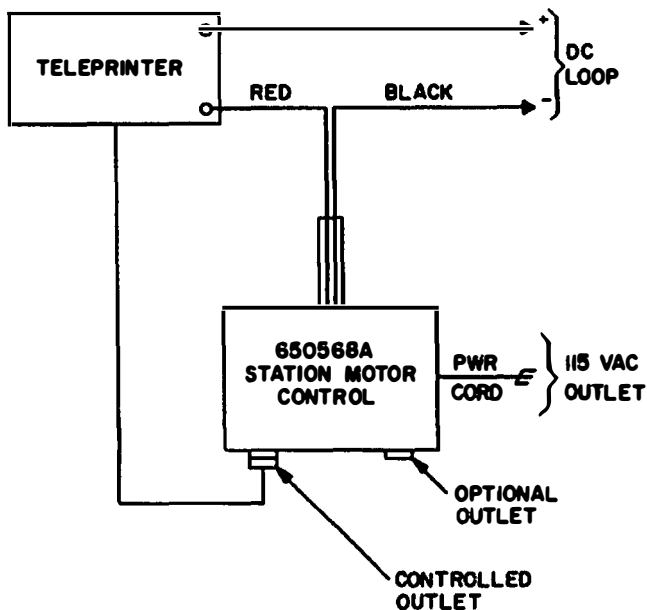

Figure 1-3. Interconnecting Diagram
5.7 Interconnection. A diagram which illustrates the interconnection of the Station Motor Control and a teleprinter is shown in figure 1-3. Refer to this figure, and insert the two-conductor cable in series with the dc Signal Loop. The red wire of the cable is positive and the black wire is negative. Any convenient connecting place may be used, such as a loop switchboard or teleprinter where terminal connectors are available.